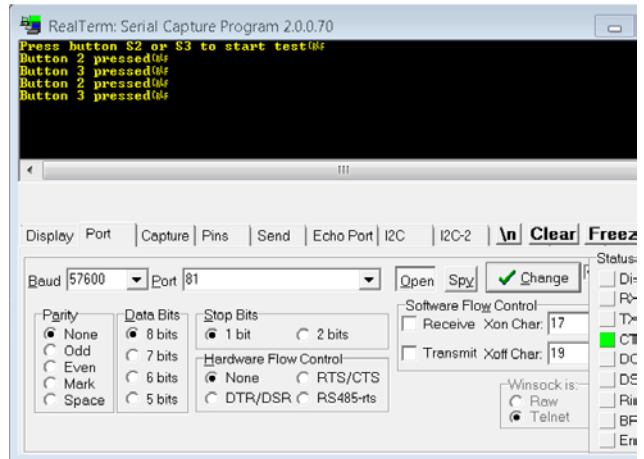

Figure 13. UART Data in RealTerm
4. Open a terminal program such as RealTerm to view UART data from the ADuCM355 (see Figure 13). The baud rate is 57600 bits/second.